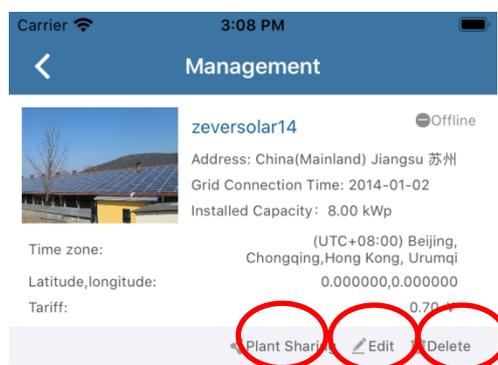

Figure 2-4-2-1 Power station management
1. To add a monitoring device, you need to enter the serial number and registration code of the monitoring device, or scan the QR code of the monitoring device. As shown in Figure 2-4-2-2-2.